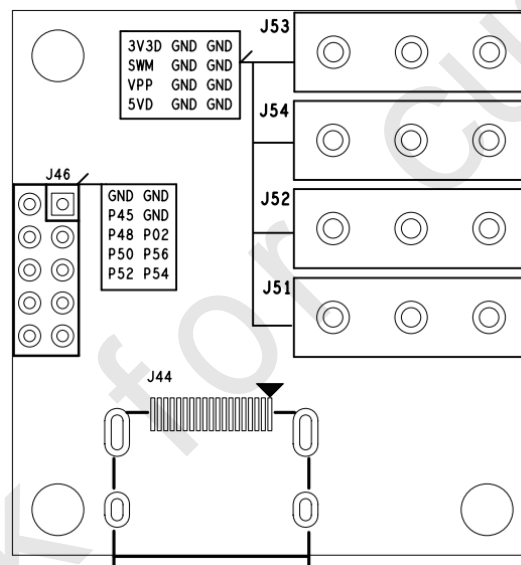

Figure 5 Thimble board
- 5) Six Thimble boards. Each contains a HDMI connector and soldering points, so that each test site of Main board can be connected with a DUT via a thimble board. Figure 5 shows an example of thimble board.